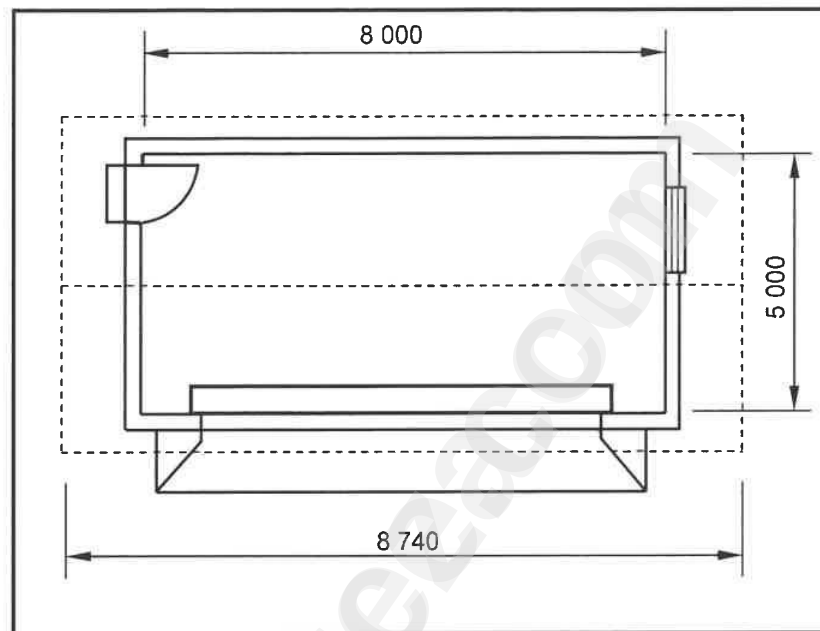

FIGURE 3.3
3.3 FIGURE 3.3 below shows the floor plan of a store room.